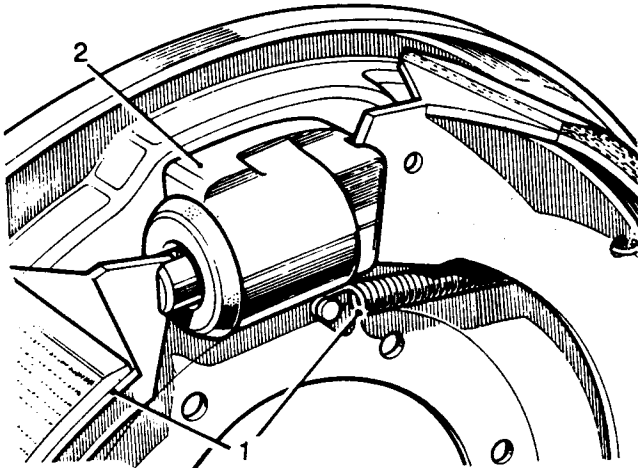

Fig K1.16
- (1) Refer to Fig K1.16. Release the brake shoes and pull-off springs (1) by levering the trailing edges away from the wheel cylinders.
- (2) Retain the pistons in the wheel cylinders (2) using a rubber band.
- (3) If required, reline the brake shoes (see Sub-sub-section K1.5, Chapter 3).